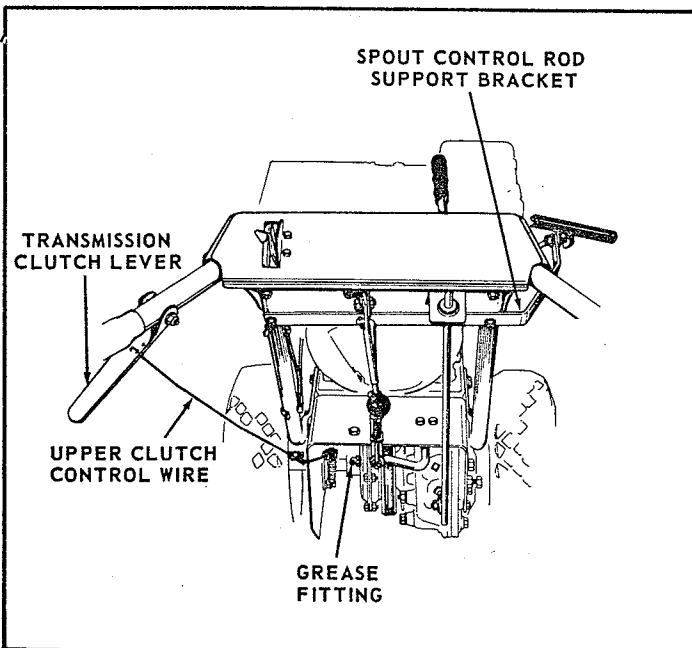

FIGURE 4
4. The upper end of the spout control rod #5, Fig. 4, is fastened to the spout control rod support bracket #1, Fig. 4 using the rod guide #4, Fig. 4, with plastic liner and one 5/16"-18 x 1-1/2" hex capscrew and 5/16"-18 hex nut.
7. Mount the clutch auger handle to the handle cover using the 5/16" x 3/4" capscrews, 1/4" flat washer, and (two) nylon washers. Secure with 5/16" locknut. Tighten so that when clutch auger handle is pulled up the nylon washers will hold it in this position, but not to the point where it is unable to pivot. See Fig. 4.